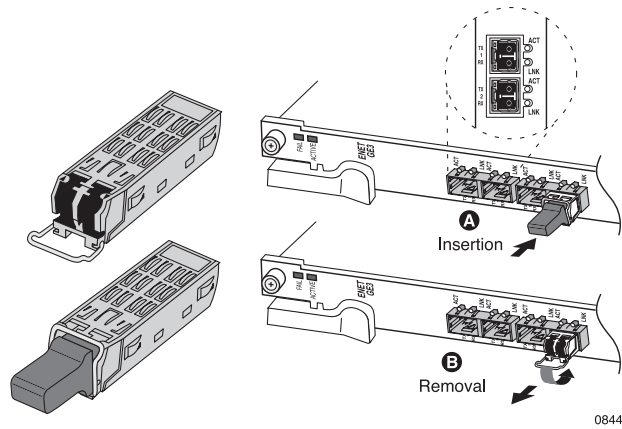
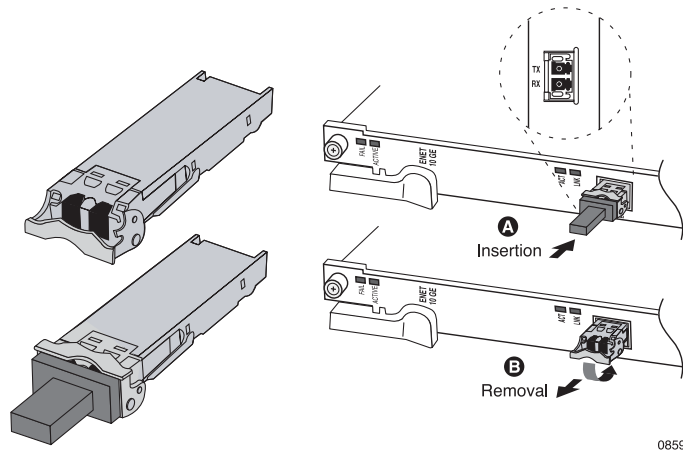

Figure 14 Installing an SFP Transceiver
Figure 15 Installing an XFP Transceiver
3. With the transceiver connectors aligned with the RX and TX labels on the front panel of the line card (as shown in Figure 14 or Figure 15), slide the transceiver into the opening for the port until the rear connector is seated and the locking mechanism snaps into place.